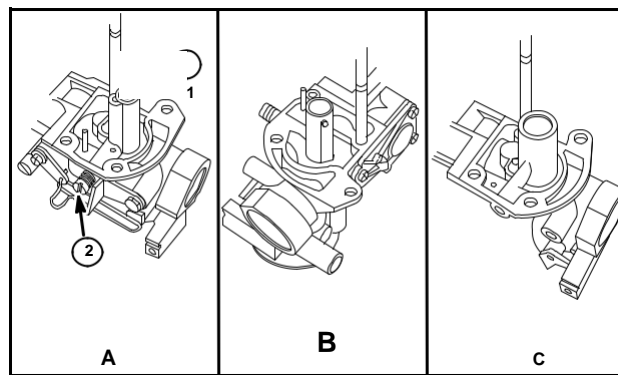

Fig. 58
Fixed jet Pulsa-Jet carburetors have been made in three versions. Current version is small well, bottom fixed jet (1), A. (Low emission carburetors have a filter screen surrounding the small well and a fixed pilot jet) (non-emission carburetors have an adjustable idle mixture screw [2]); second version is small well, fixed side jet, B; and third version is large well, fixed side jet, C, Fig. 58.